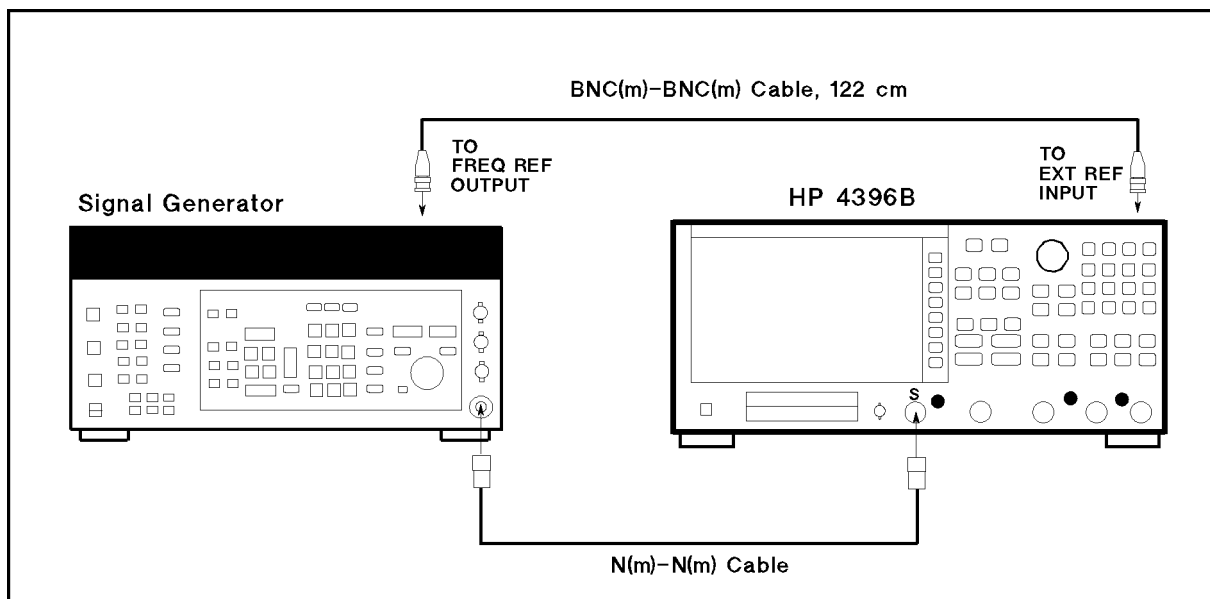

Figure 2-31. Other Spurious Test Setup
1. Connect the test equipment as shown in Figure 2-31.
Connect the signal generator's 10 MHz frequency reference output to the 4396B EXT REF Input on the rear panel as shown in Figure 2-31. With this configuration, both the signal generator and the 4396B are phase locked to the same reference frequency to obtain a stable measurement.